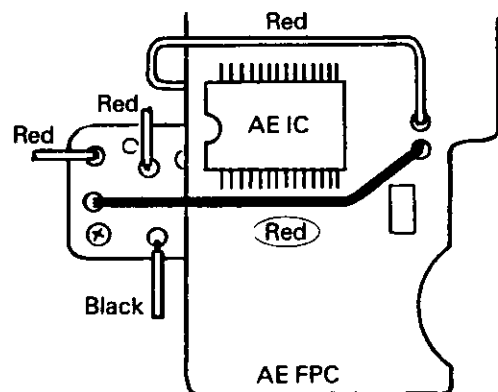

Fig. 8
- (7) Detach the soldering of the Lead wire (Red) shown in Fig. 8.
- (5) Solder the Lead wire (Red) shown in Fig. 8.